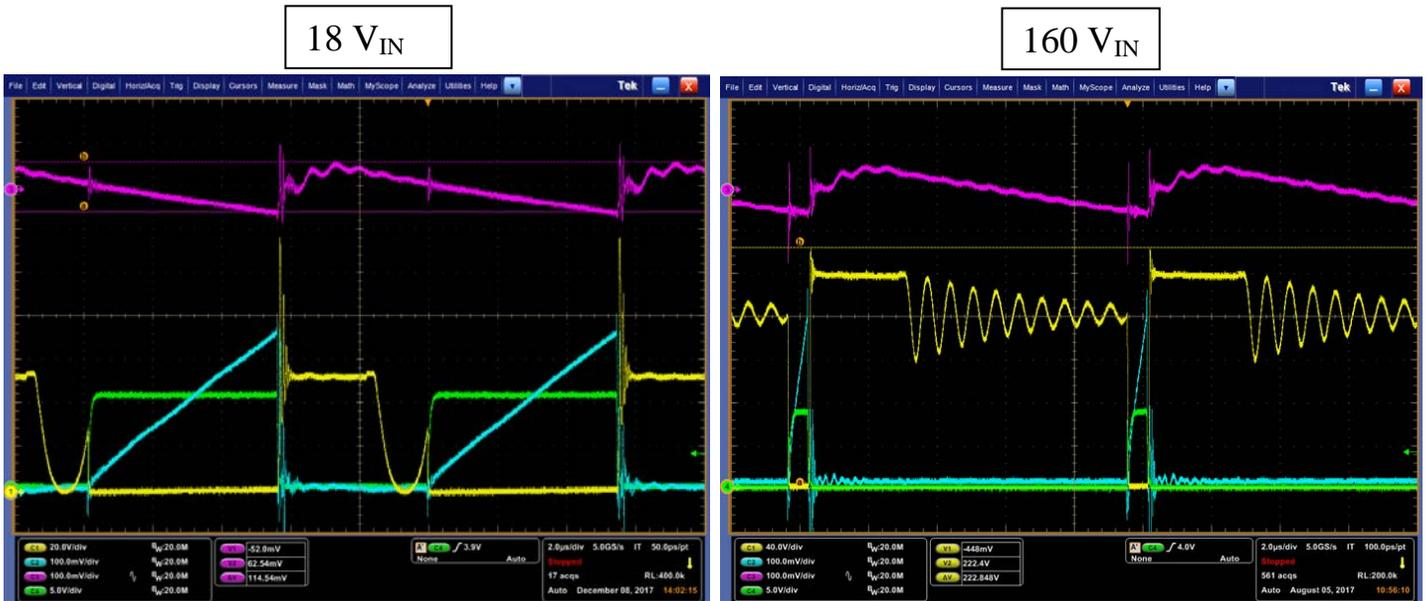

Figure 3: Typical Operating Waveforms
The waveforms in Figure 3 show typical full load operation of the SMPS at 18 and 160 V_{IN}. Characteristic of discontinuous mode operation, the peak current and demagnetization period are approximately equal for a given load condition, regardless of input voltage. The wide input range capability is made possible with a minimum of external components due to the capability of the high voltage startup regulator and the integration of over-power protection. The SMPS design also operates at 100 kHz and utilizes much of the duty cycle capability of the NCP12700 to achieve regulation across the wide input range without being subjected to issues of minimum on times.
Also worth noting is the use of secondary side synchronous rectification (SR) which is evident from the oscilloscope capture in Figure 3 by the inflection on the primary V_{DS} waveform just prior to the end of the demagnetization period. This is the point at which the SR turns off, demonstrating that the conduction period of the SR is sustained for much of the demagnetization period for optimum efficiency.